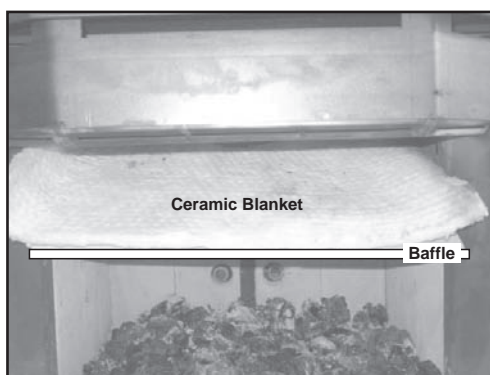

Figure 36.2
5. Slide fiber board baffle forward to front of stove and straight out through door. **Figure 36.2.**